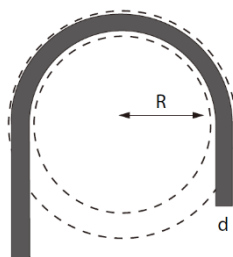

Figure 8 Minimum Bend Radius
- When wiring modules, always keep in mind the minimum bend radius (see Figure 8). This minimum bend radius is the permissible curvature the cable can be bent around. Depending on the type of cable, a specific coefficient (Cable multiplier), must be applied. For our DC cables this parameter is 4.